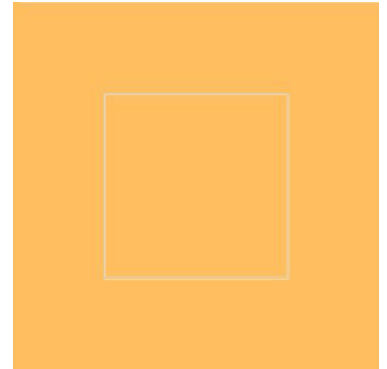

Figure 1
Step 2: Cut a v-groove in the back of a piece of matboard, to the same dimensions as your glass size. Make sure you allow lots of space around the v-groove, and you may also wish to make the v-groove a bit wider and deeper than normal. (*Figure 1*)